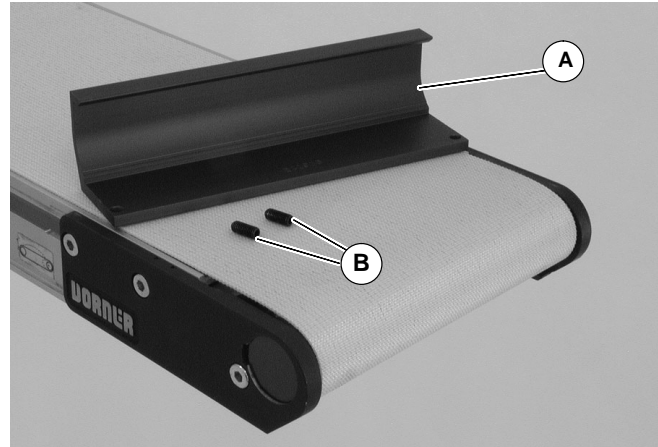

Figure 5
Periodically, remove two (2) set screws (B of Figure 5) and remove transfer plate (A). Clean any debris from